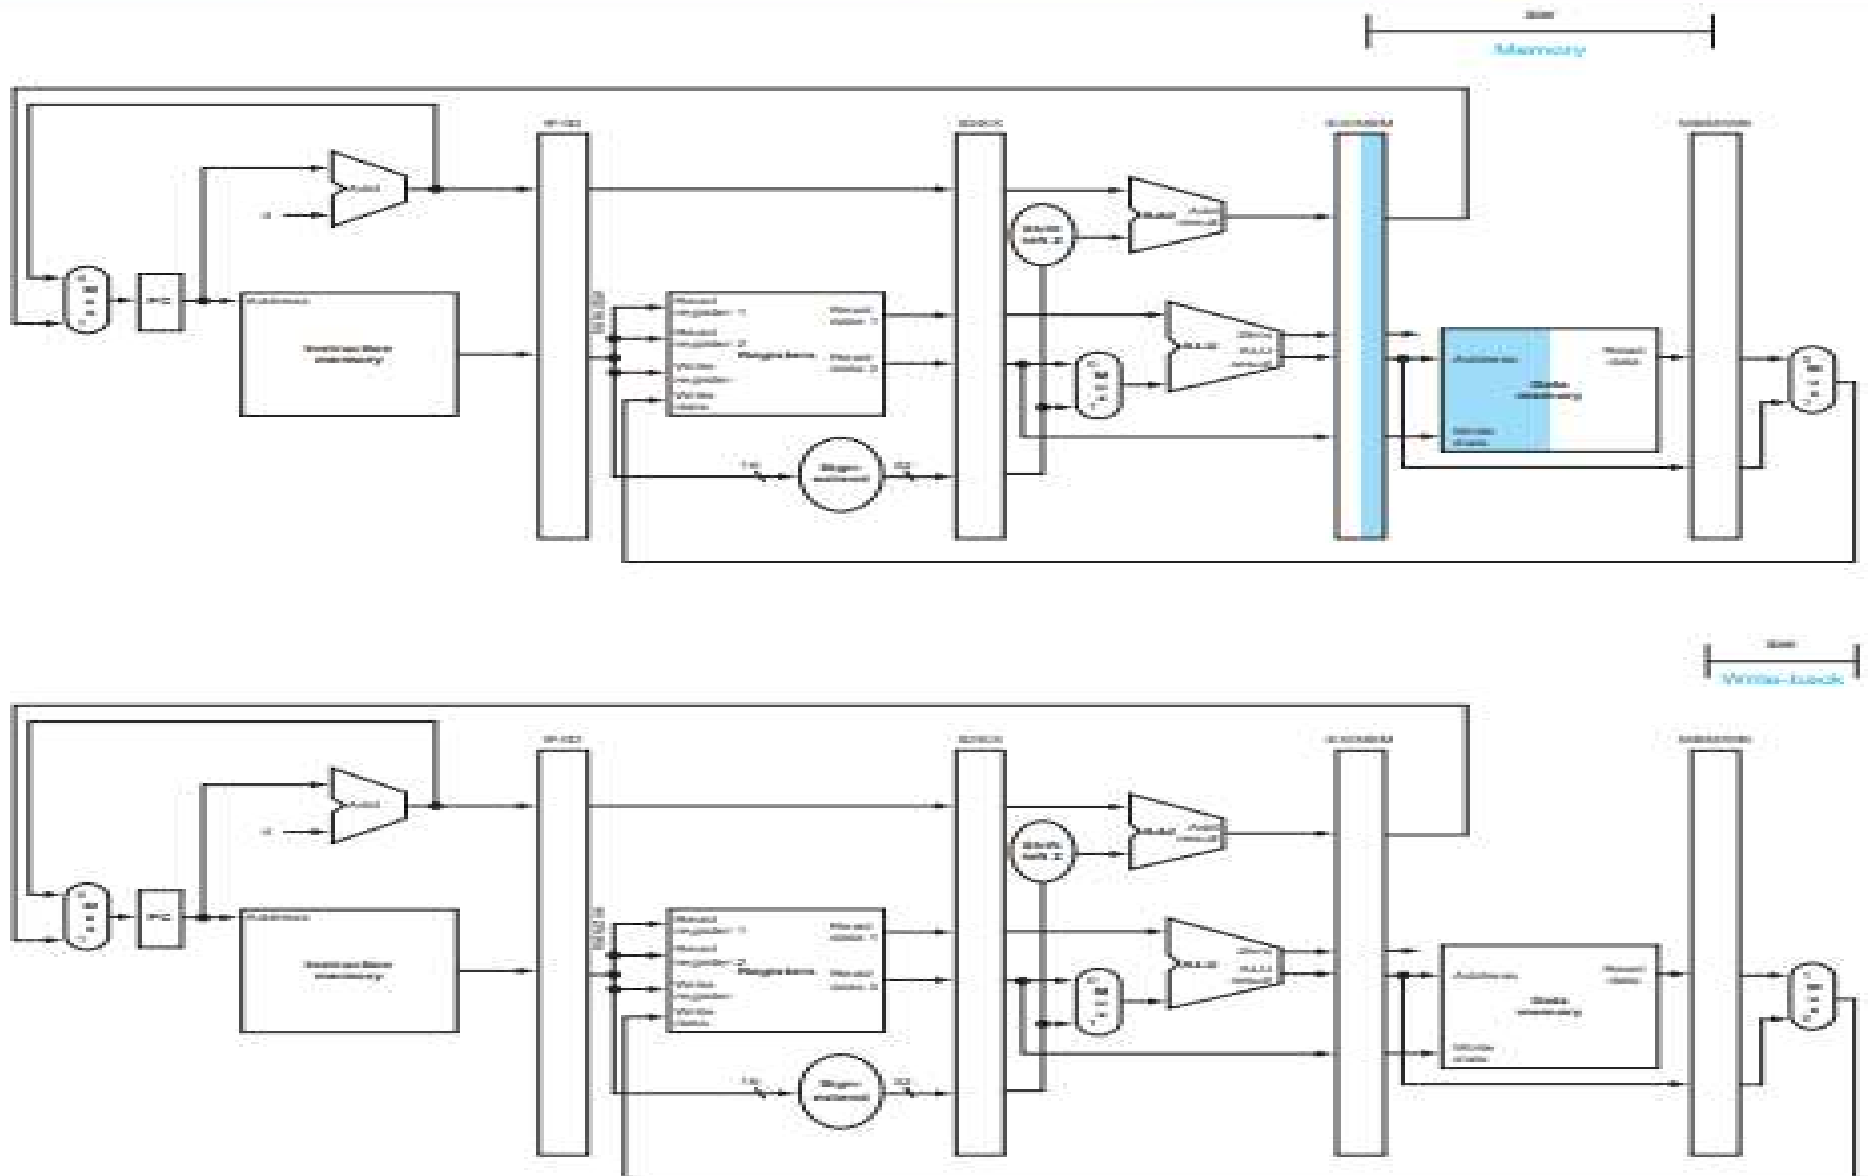

FIGURE 40 MEM and WB: The fourth and fifth pipe stages of a store instruction.
4. **Memory access**: The top portion of Figure 40 shows the data being **written to memory**. Note that the **register containing the data to be stored was read in an earlier stage and stored in ID/EX**. The only way to make the data available during the MEM stage is **to place the data into the EX/MEM pipeline register in the EX stage**, just as we stored the effective address into EX/MEM.
5. **Write-back:** The bottom portion of Figure 40 shows the final step of the store. For this instruction, **nothing happens in the write-back stage**. Since every instruction behind the store is already in progress, we have no way to accelerate those instructions. **Hence, an instruction passes through a stage even if there is nothing to do, because later instructions are already progressing at the maximum rate.**